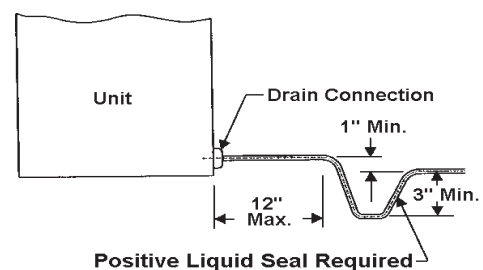

Figure 3
4. Remove the 4 screws that will be used to attach the vent cover (see Fig. 3). Install the vent cover using these screws. A properly installed vent cover will not extend above the top of the unit.
The condensate drain line must be properly trapped and routed to a suitable drain. See Figure 3 for proper drain arrangement. The drain line must pitch to an open drain or pump to prevent clogging of the line. Seal around the drain connection with suitable material to prevent air leakage into the return air system.